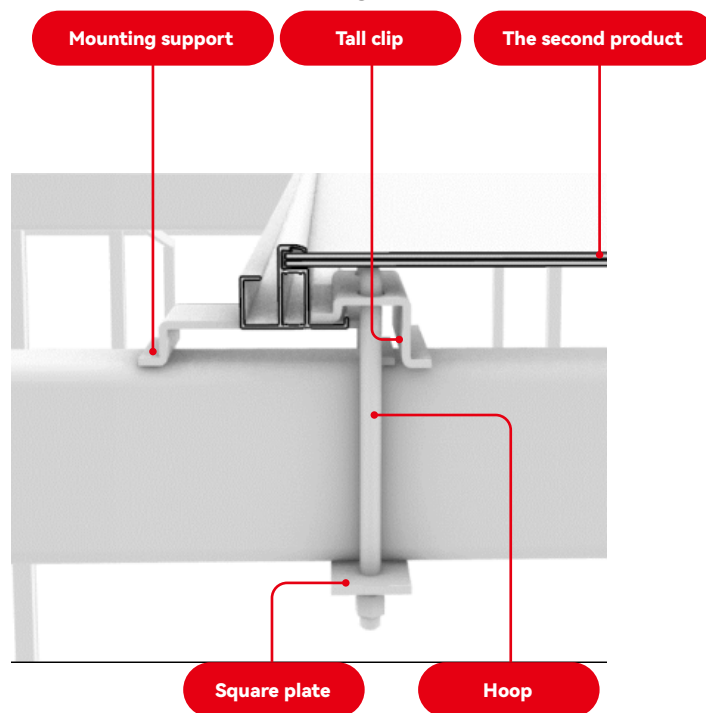

FIGURE 19
- Refer to the installation steps of the first product and fix the Mounting support on the lower left of the second product. The section view is as Figure 19.